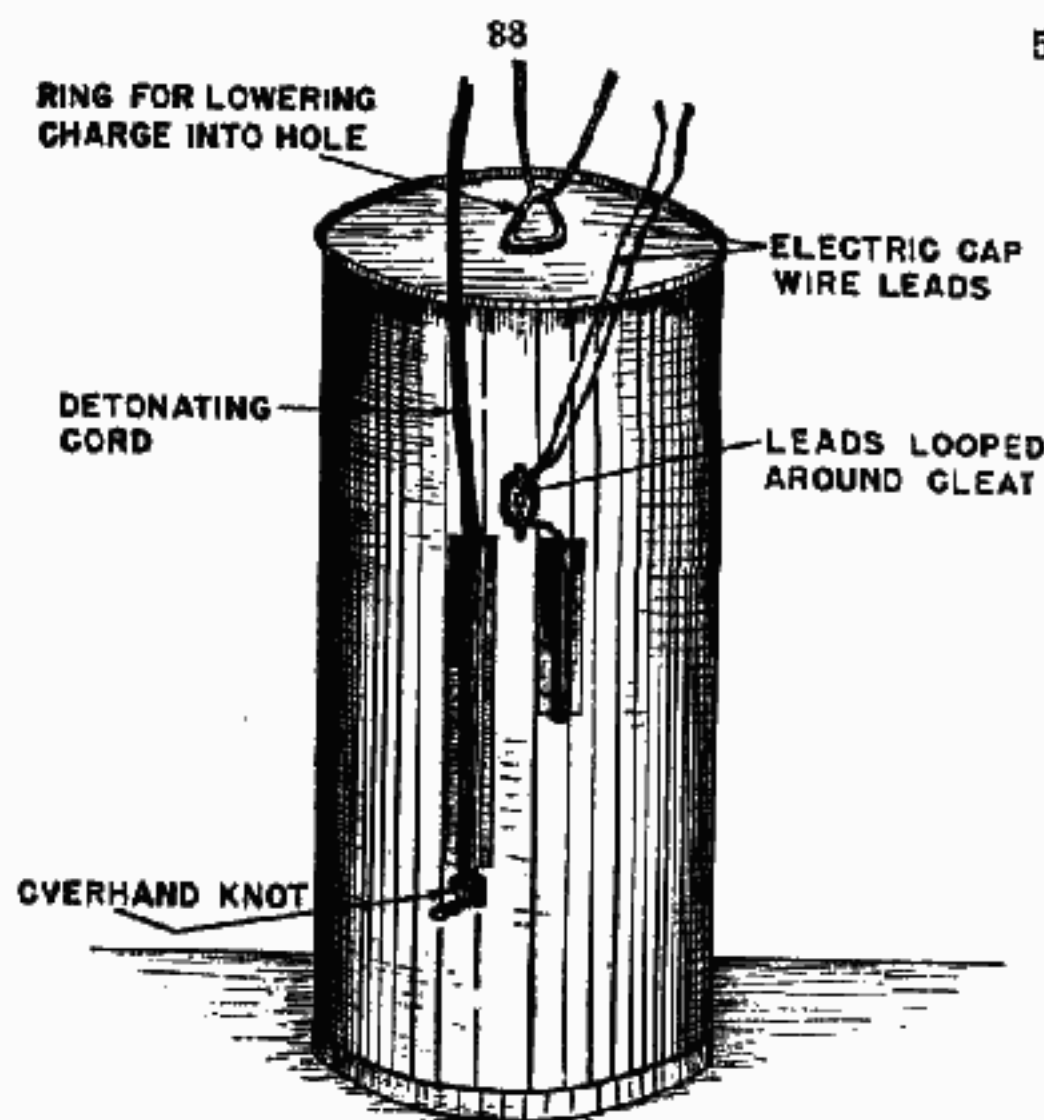

FIGURE 94.—Ammonium nitrate cratering charge with electric-cap and detonating-cord primers.
d. Ammonium nitrate cratering explosive (fig. 94).—Ammonium nitrate cratering explosive is issued in 40-pound
cap (fig. 94). To make a primer using detonating cord, pass the detonating cord all the way through the tunnel (from top to bottom) on the side of the container and tie an over-hand knot in the lower end to prevent the cord from pulling out of the tunnel. Both means of detonating should be used simultaneously. Do not use detonating cord or electric-cap leads to lower the ammonium nitrate cratering charges into holes; use a cord attached to the ring in the top of the charge.